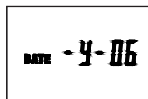

Fig. 6
10. Press the **SETUP** button a sixth time (see Fig. 6).
11. While viewing the display (see Fig. 6), press the **LEVEL** button for the desired year. Then press the **HOLD** button to save the year. This completes the setup process.